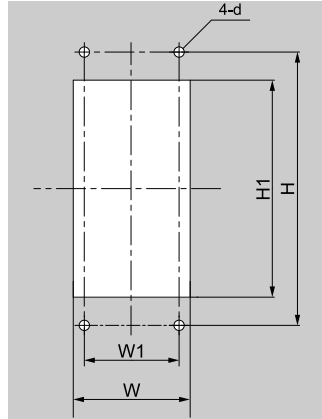

Figure 2.15 Panel Cut-Out Dimensions to Attach Inside Control Panel
1. Use the panel cut-out dimensions in Figure 2.15 and Table 2.4 to cut an opening in the control panel for the keypad.